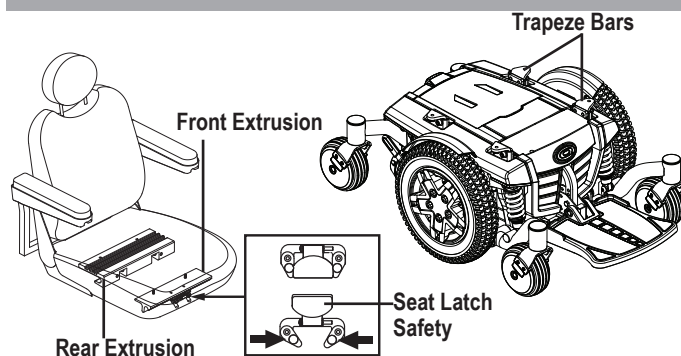

Figure 6. Universal Mounting System and Contour Seat
It may be necessary to install the seat either prior to initial operation or after transporting your power chair. Contour seats are attached to the power base with the Universal Mounting System (UMS). The UMS consists of universal parts that may be attached to the seat, regardless of seat width or seat depth. The two main components are aluminum extrusions mounted to the seat base. These extrusions attach to a pair of trapeze bars that are mounted to the power base. See **figure 6**.
1. Tilt the seat back and slide the rear extrusion onto the rear trapeze bar. See **figure 6**.
4. Flip up the seat latch safety. **See figure 6.**